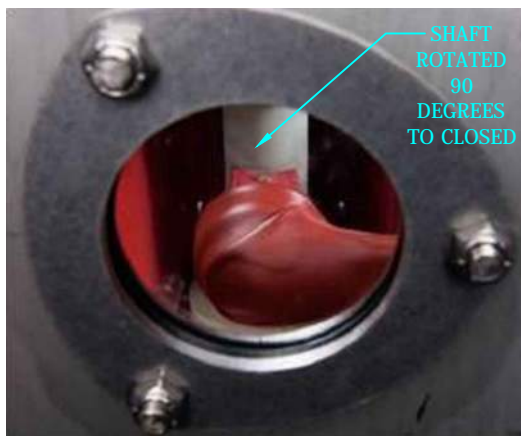

FIGURE 10
H. THE POLYCARBONATE VIEWING WINDOWS FOR THE CLOSED/OPEN VACUUM CONTACT SEMAPHORE ARE COVERED AT THE FACTORY WITH GREEN ULTRAVIOLET PROTECTIVE TAPE. REMOVE THE TAPE UPON COMPLETION OF INSTALLATION. IF THE TAPE IS INADVERTENTLY REMOVED PRIOR TO INSTALLATION, PLEASE COVER THE LENSES OR APPLY ULTRAVIOLET PROTECTIVE TAPE TO KEEP THE WINDOWS FROM YELLOWING. SEE FIGURE 10.